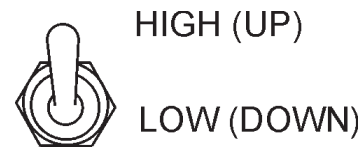

Figure 67. Engine Speed Switch (High)
3. Set the engine speed switch (Figure 67) to the "**High**" position.
1. Place both the **MAIN, GFCI** and **LOAD** circuit breakers as shown in Figure 67 to the "OFF position".